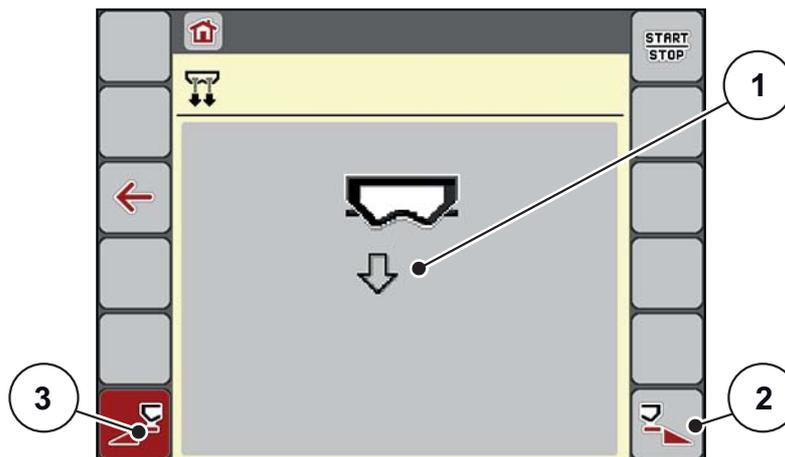

Figure 4.11: Fast emptying menu
- ▷ The selected section is displayed as an icon (Figure 4.11, position [2]).